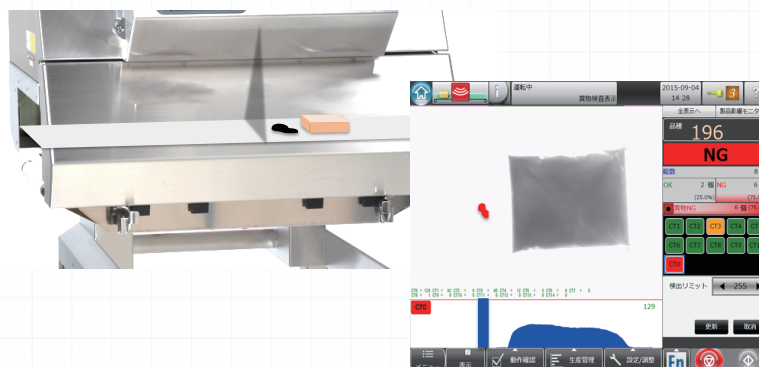

Figure 1: X-ray transmission image
Spots and stains gradually adhere not only to the surface but also the back of the conveyor belt with time and they become the objects that absorb x-rays. For example, a seasoning packet for an individually packed food has a thin thickness and low density so that the x-ray tube voltage is set to a low level during the inspection. In general, an x-ray transmission image will appear clearly with low tube voltage, allowing soft contaminants to be detected easily. For this reason, seasoning powder adhering on a conveyor belt can cause false rejects. Unlike foreign objects in products, spots and stains on a conveyor belt do not cause health risks to the human body; however, the x-ray system evaluates it as a defective product (NG) and may reject a PASS product being conveyed right behind spots and stains on a conveyor belt (Fig.1). Food clinging on a belt forms into a mass with the lapse of time and it will appear as a shadow on a screen of the x-ray system. It is easy to detect a shadow when running a belt without the product as it appears on a screen periodically. Please check both the surface and reverse sides by removing the conveyor belt.